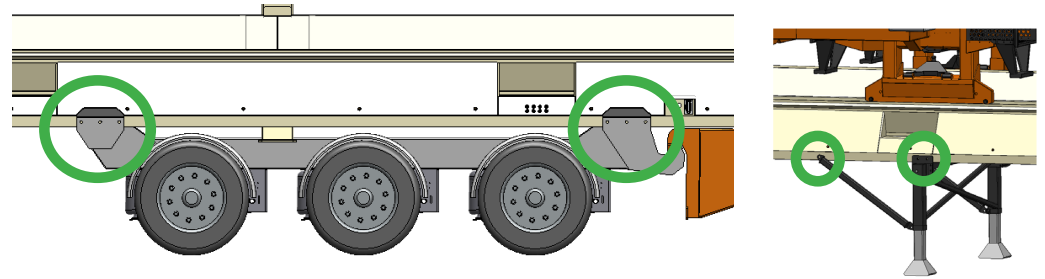

Fig. 6: side view; disconnection points
10. Disconnect all air/power connections. (see fig. 6)